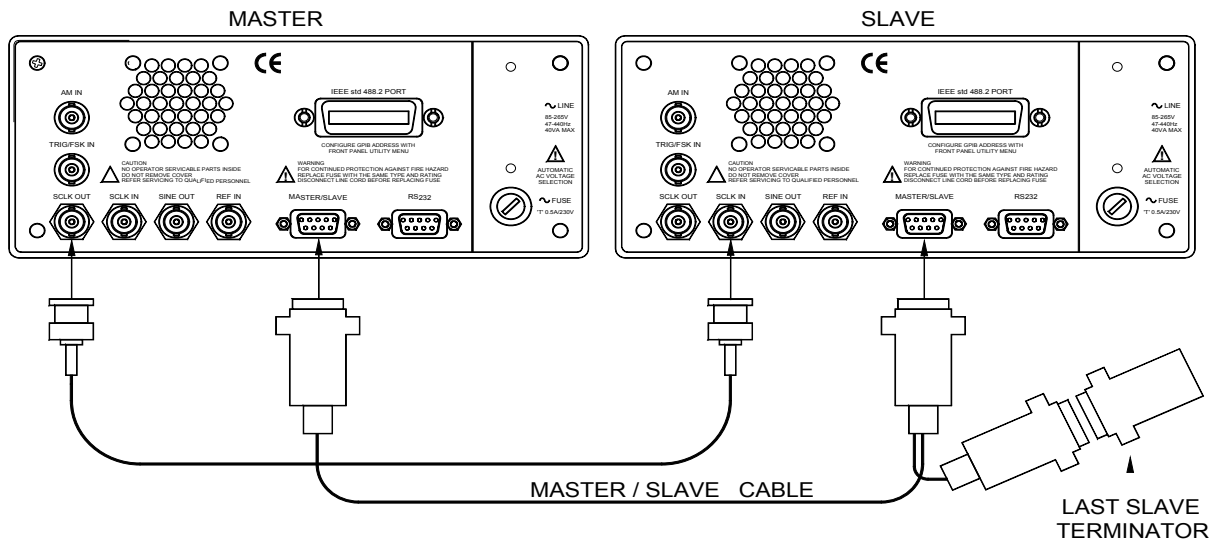

Figure 3-29, Wiring Diagram Master to Slave
Connecting multiple instruments in master/slave configuration is extremely easy. All you need is two types of cables, the first being a standard BNC to BNC coax cable to feed the sample clock output and a 9-pin to 9-pin cable to feed the master-to-slave, or slave-to-slave controls. The master/slave cable is supplied with your instrument however, the BNC cable you can get from any store. Figure 3-29 shows the connection between master and slave instruments. Additional slave units can be daisy-chained in a similar way. What you have to remember is that SCLK OUT feeds an adjacent SCLK IN. Also, always have the last slave unit in the chain terminated with the special 9-pin terminator.
1. Connect your instruments as shown in Figure 3-29. Make sure